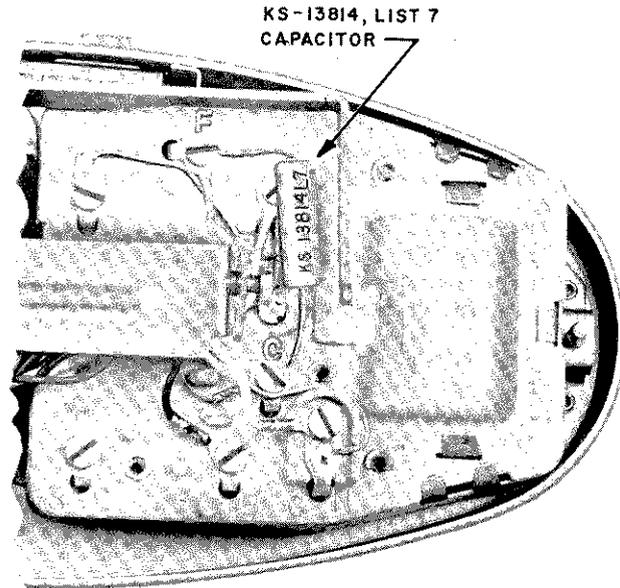

Fig. 5 - 701B or D, 711B Telephone Set,
2.05 The KS-13814, List 7 capacitor is installed in the 701B, 701D, and 711B telephone sets as shown in Fig. 5. It is connected between the F and C terminals of the 495A network. Cover the exposed portion of the capacitor leads with tubular insulation.